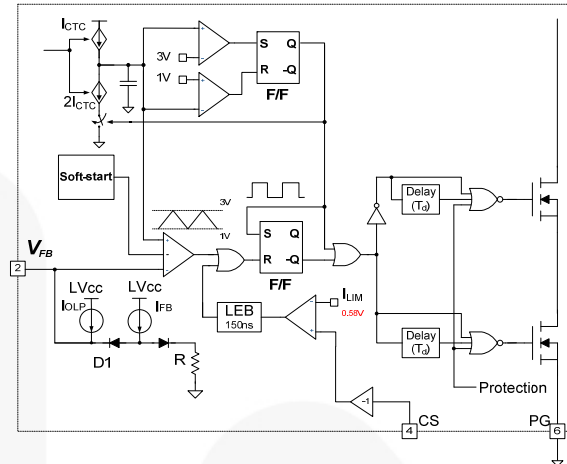

Figure 19. Internal PWM Block Diagram
Figure 19 shows the internal block diagram for PWM operation. Duty cycle is controlled by comparing the feedback voltage to the triangular signal with a range from 1V to 3V.
true overload situation. Because of the pulse-by-pulse current limit capability, the maximum peak current through the MOSFET is limited; and, therefore, the maximum input power is restricted with a given input voltage. If the output consumes more than this maximum power, the output voltage (VO) decreases below the nominal voltage. This reduces the current through the opto-coupler diode, which also reduces the opto-coupler transistor current, increasing the feedback voltage (VFB). If VFB exceeds 3V, D1, which is illustrated in Figure 19, is blocked and the OLP current source starts to charge CB slowly, as shown in Figure 23. In this condition, VFB continues increasing until it reaches 7V, then the switching operation is terminated, as shown in Figure 23. The delay time for shutdown is the time required to charge CB from 3V to 7V with 5μA, as given by: